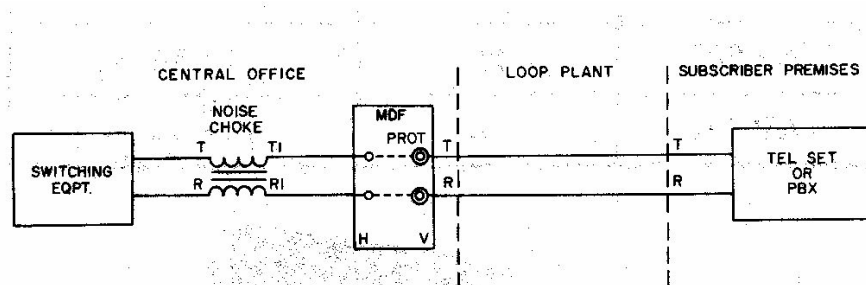

Figure 9: Central Office Application
- 4.02 Subscriber Loops: To reduce noise on subscriber loops, chokes can be installed on the central office side of the protectors as shown in Figure 9.